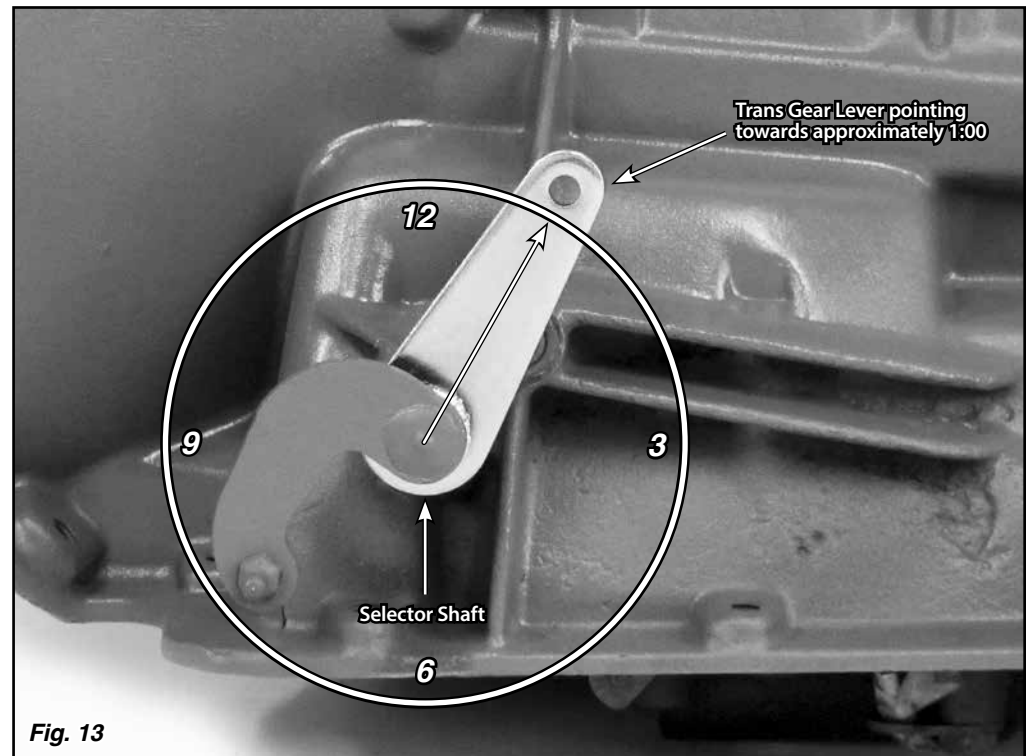

Fig. 13
**Step 18:** Place the trans gear lever in the Park position. The top of the trans gear lever should be pointing up and slightly towards the rear of the transmission, at about the 1:00 position. Fig. 13